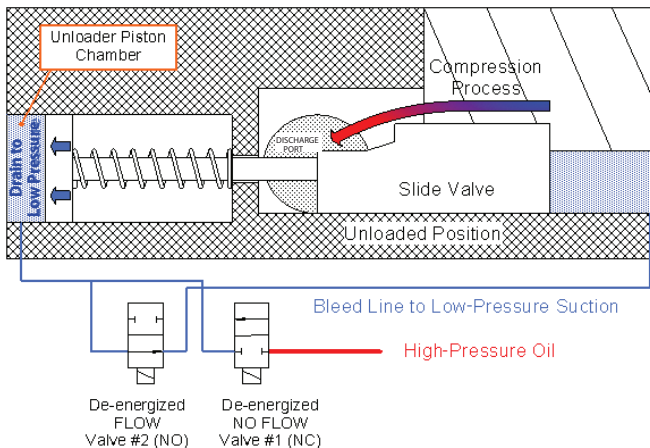

Fig. 19 — Configuration for Unloading
- To unload the compressor, both solenoids are de-energized (Fig. 19). This exposes the unloader piston chamber to suction pressure, pulling the slide valve out from under the screw rotors and reducing the amount of compression being performed.